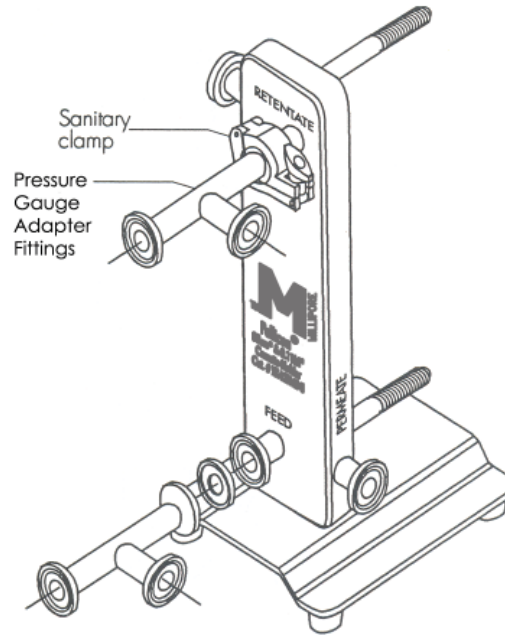

Figure 6: Clamping the Pressure Gauge Adapter Fittings to the Mini Holder Fitting
3. Secure the Pressure Gauge Adapter Fittings to the FEED fitting with the sanitary clamp, as shown in Figure 6.